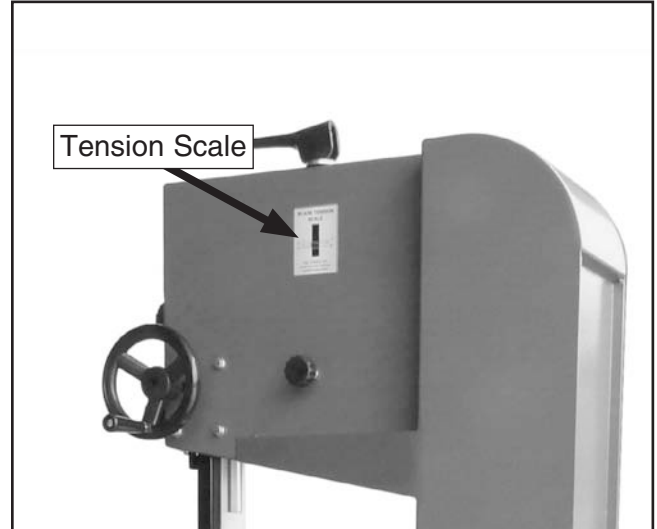

Figure 39. Tensioner adjustment.
9. Turn the tension knob until proper blade tension has been reached according to the blade thickness scale shown in **Figure 39**.